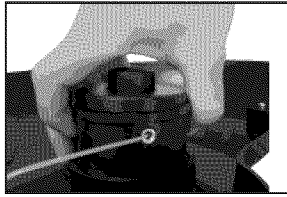

Figure 22 - Unlocking spool cover
1. Press in the two locking tabs holding the spool cover to the spool housing (See Figure 22).